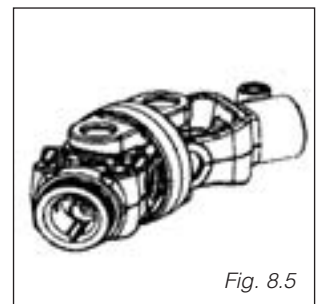

Fig. 8.5
1. To ensure uniform transmission of rotary motion in any angular position. Maximum articulation of the wide-angle CV joint 25° at continuous operation 50° at standstill and short duration. Lubricate the joint every 8 shaft operating hours. (Fig. 8.5.).